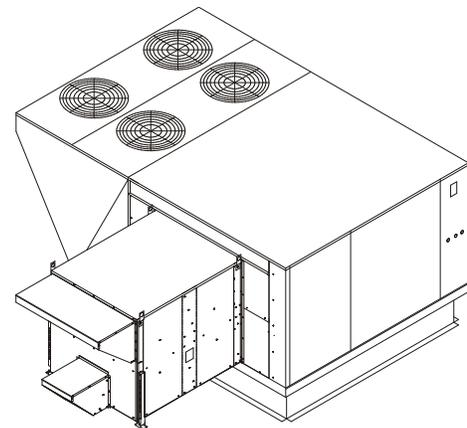

Figure 14
Note: The ERS unit is equipped with a support block that must be removed to allow the unit to change operating modes. This block may cause damage to system if not removed. See Figure 14.
7. Check and seal, if necessary, along the edges where the ERS meets the rooftop unit to ensure there is no air leakage. Final assembly should resemble **Figure 14.**